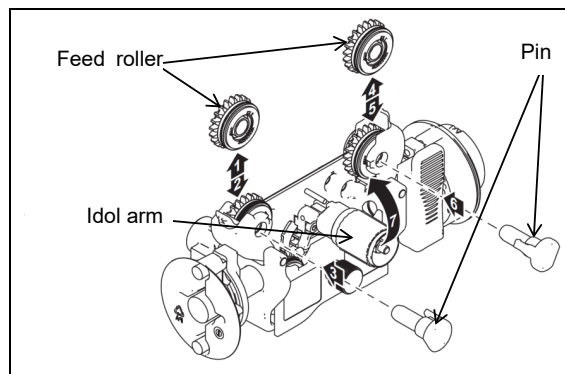

Fig. 5.4.9 (a) Replacing the roller
- 4 According to Fig. 5.4.9 (a), pull out the pin and remove the follow roller.